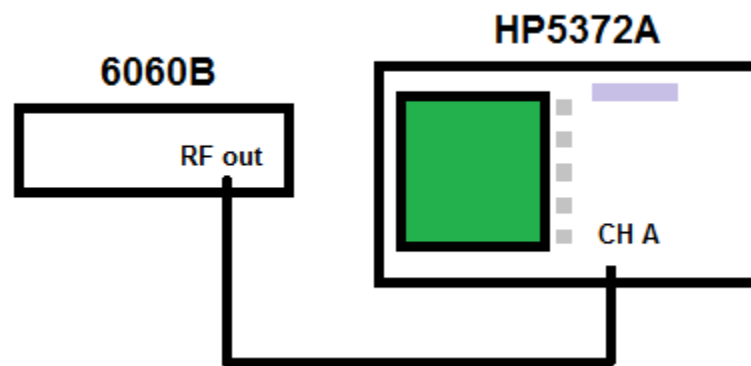

Figure 4 Experiment set up.
- 2- Connect the equipment as shown in Figure 4.